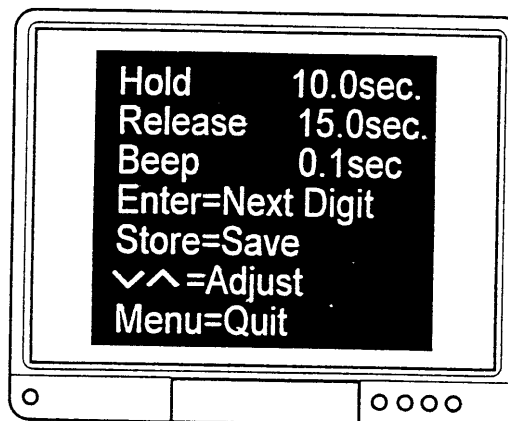

Figure 21.
Step 2. Press 'Enter' on the keypad, the on-screen display will change to the display shown in figure 21, with the first time setting highlighted.